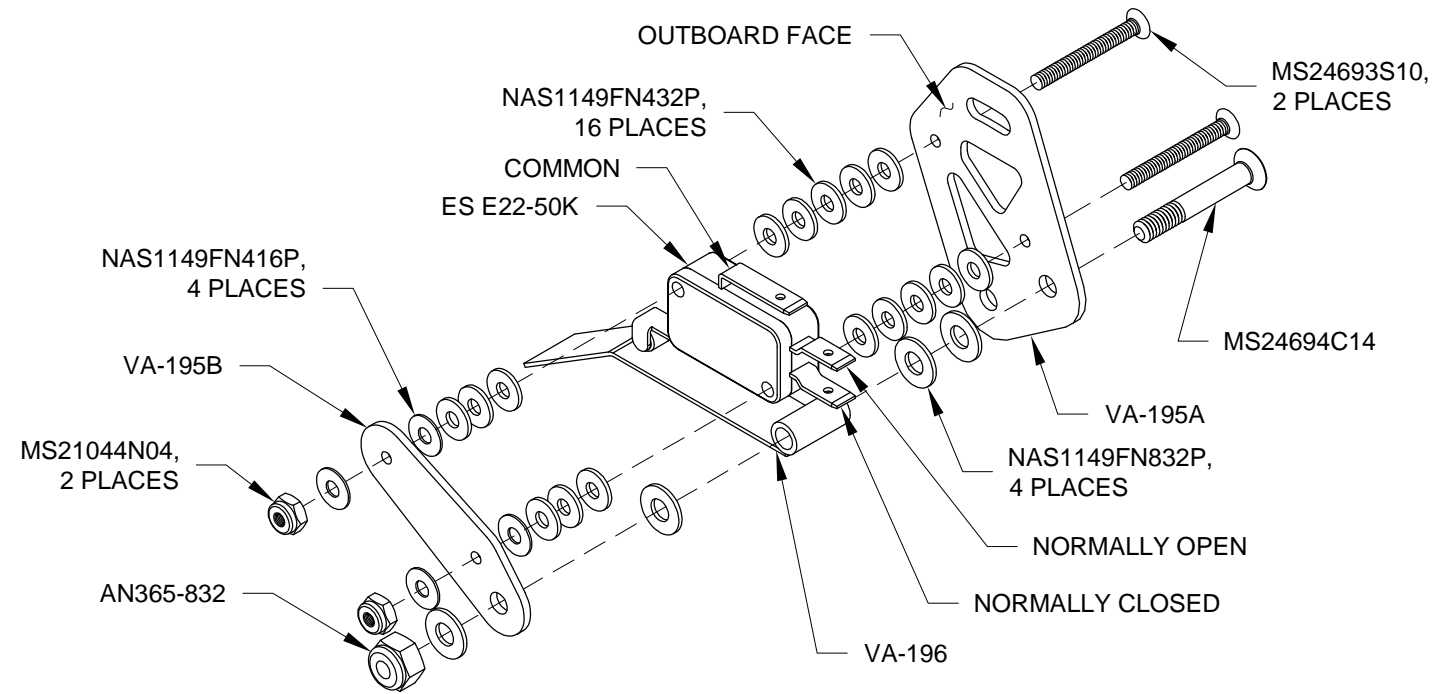

FIGURE 1: STALL WARNING SUBASSEMBLY
Machine countersink both holes of the mount plates inboard side for the flush head of a #4 screw. See Figure 1.
Machine countersink this hole in the mount plate on the inboard side for the flush head of a #8 screw. See Figure 1.
Step 4: Assemble the Stall Warning Subassembly as shown in Figure 1.